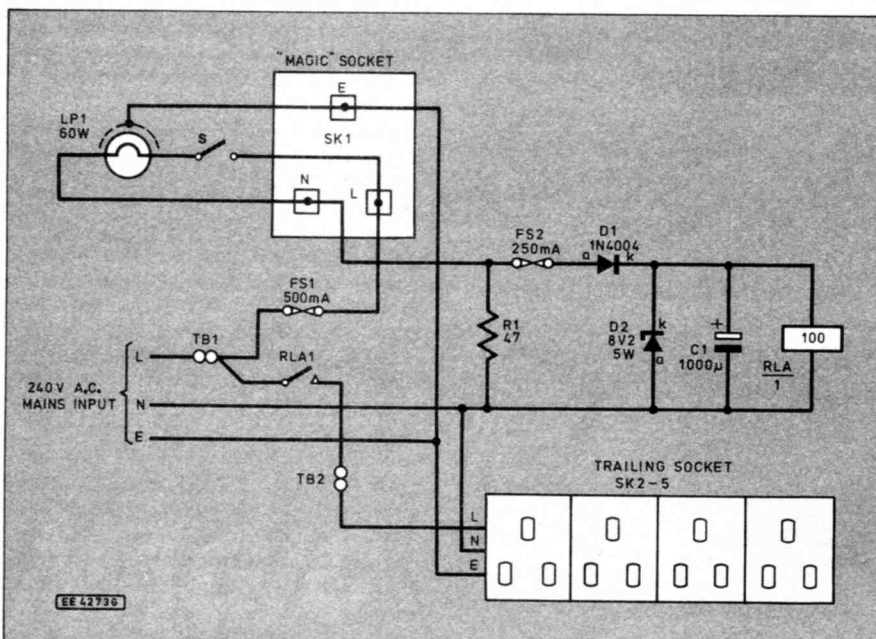

Fig. 1. Complete circuit diagram for the Magic Socket. Switch (s) is the lamp switch.
The complete circuit diagram for the Magic Socket project is shown in Fig. 1. Note mains lamp, LP1, plugged in to the master - or *magic* - socket, SK1. When this is switched(S) on, current flows from the live supply wire, through fuse FS1, bulb LP1 filament and resistor, R1. From here it completes the circuit back to mains Neutral. With current flowing through R1, 9V approximately will be developed across its ends.